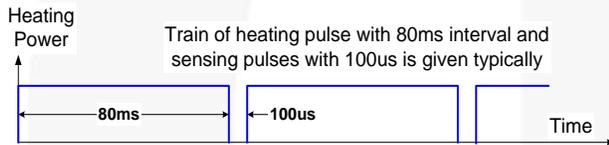
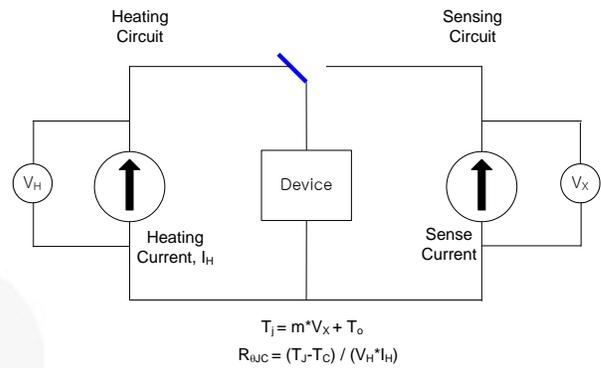

Figure 6. Example of a Power and Sample Pulses Train During the  $R_{JC}$  Measurement of a SPM-IGBT
Figure 7. Illustration of the Thermal Resistance Test Method Concept
The thermal resistance test begins by applying a continuous power of known current and voltage to the DUT. The continuous power heats up the DUT to a thermally equilibrated state. While the device is heating, a continuous train of sampling pulses monitors the TSP, i.e., the voltage drop or the same as the junction temperature. The TSP sampling pulse must provide a sense current equal to that used during the calibration procedure for obtaining equation (4). While monitoring the TSP, adjust the applied power so as to insure a sufficient rise in  $T_J$ . Adjusting the applied power to achieve a  $T_J$  increase of about 100 °C above the reference temperature will generate enough temperature difference to ensure a good measurement resolution. A typical example is shown in Figure 6.
The TSP sampling time must be very short so as not to allow for any appreciable cooling of the junction prior to re-applying power. The power and sensing pulse train shown in Figure 6 has a duty cycle of 99.9%, which for all practical purposes is considered to be continuous power. Obviously, most of the total power is applied to the DUT in Figure 7.